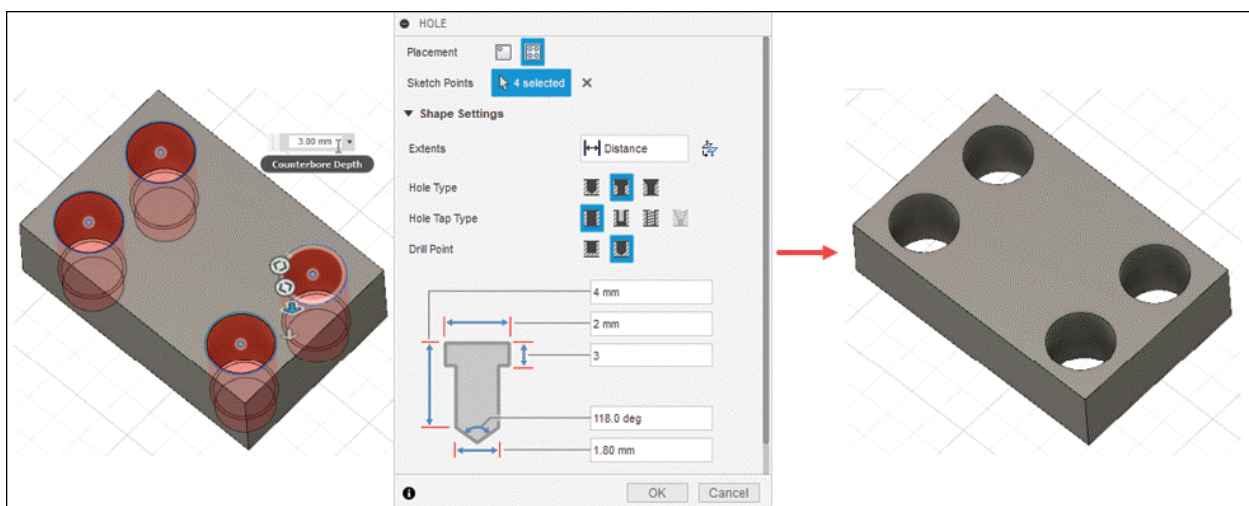

Figure-51. Preview of multiple holes
- After specifying the parameters, click **OK** button from **HOLE** dialog box to finish the process. The holes will be created; refer to Figure-51.